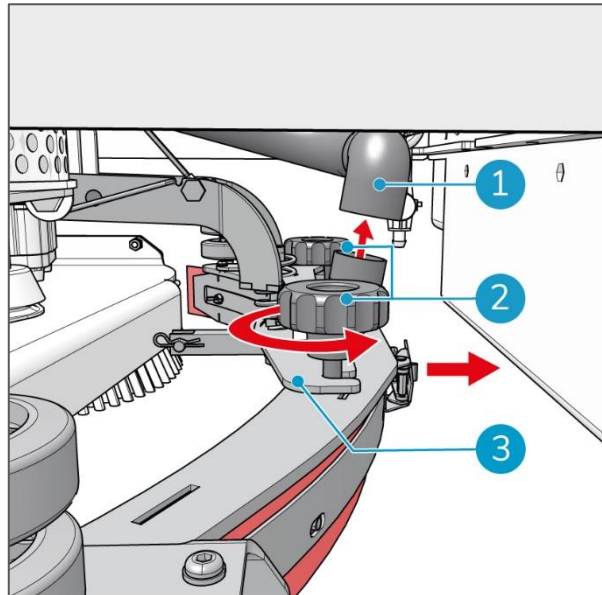

Figure 40
6. Remove the vacuum hose from the hose connector (Figure 40, pos 1).
7. Loosen the two rotary knobs (Figure 40, pos 2).
8. Pull the squeegee body backwards, out of the squeegee lifting plate (Figure 40, pos 3).